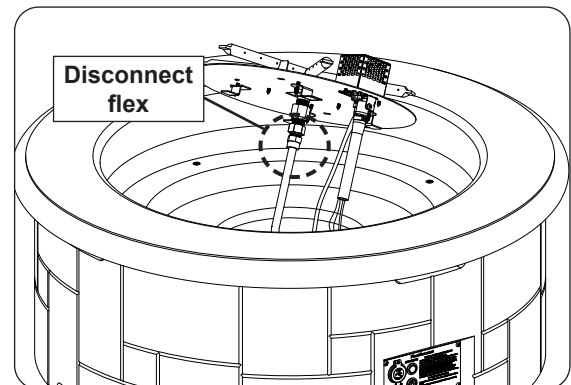

Fig. 29-3 Disconnect flex connector
4. Disconnect flex connector attached to the burner assembly (see Fig. 29-3).